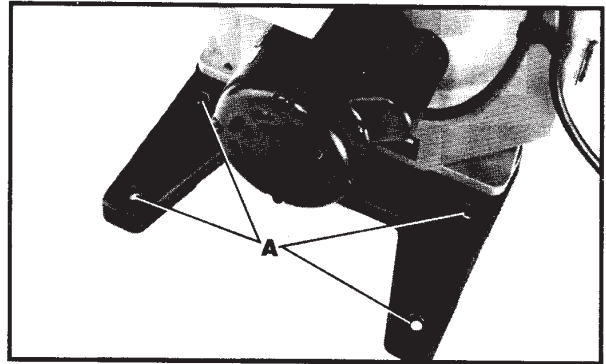

Fig. 10
If during operation there is any tendency for the machine to tip over, slide, or walk on the supporting surface, the machine must be secured to the supporting surface. Four holes (A) Fig. 10, are provided in the band saw base for this purpose.